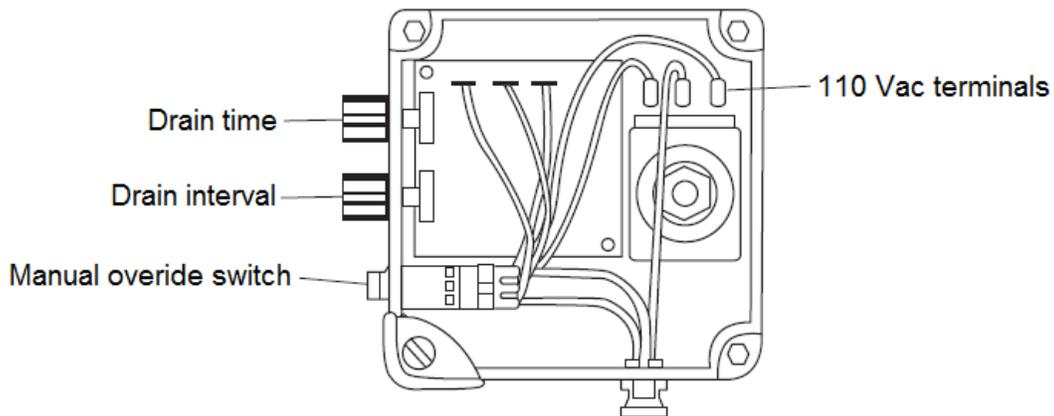

Figure 551-88L-3051\_12
(1) Possible causes.
(2) Actions to take.
- (d) Properly set the drain time and drain interval settings, (refer to Figure 551-88L-3051\_12).